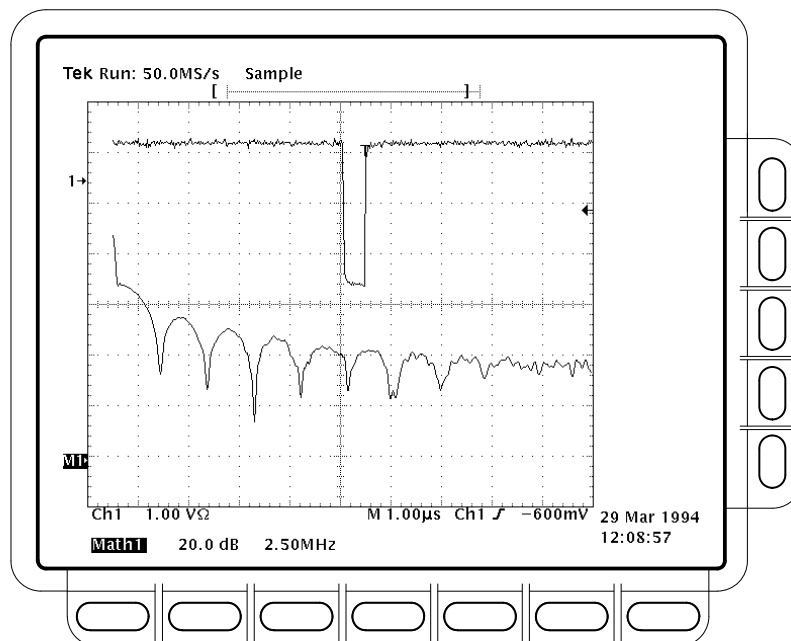

Figure 3–84: FFT Math Waveform in Math1
12. Press **OK Create Math Wfm (side)** to display the FFT of the waveform you input in step 1. (See Figure 3–84.)